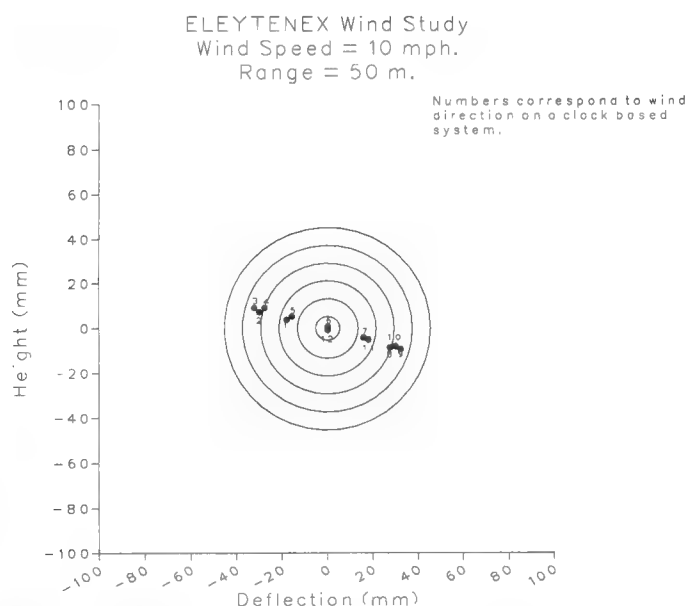

Figure 6. Effect of a 10 mph wind on the Eley Tenex bullet at 50 meters range
Figures 6 through 8 illustrate the 6-DOF results, with the standard 50 meter Olympic target drawn to scale, for constant wind speeds of 10 miles per hour (mph), 20 mph, and 30 mph, respectively. The solid black data points represent the impacts of bullets in the wind, if the rifle is properly zeroed at 50 meters range in a no-wind condition, and the rifleman makes no wind corrections. The number adjacent to each impact point is the clock direction from which the wind is blowing. (Note: To convert millimeters to inches, divide millimeters by 25.4).
Figures 6 through 8 show that the wind response of Eley Tenex and R-50 ammunition is essentially linear in wind speed up to 30 mph; e.g., a 20 mph wind deflects the bullet twice as much as a 10 mph wind, and a 30 mph wind deflects it three times as much as the 10 mph wind. The 1989 study shows that the Eley Tenex and R-50 bullets are slightly more wind sensitive than some previously published .22 caliber wind tables indicate, but the differences are not of any practical significance.
Figure 6 shows that even a 10 mph crosswind, coming from either 2, 3, or 4 o'clock, or from 8, 9, or 10 o'clock, will cause the rifleman to lose one point on the scoring ring unless a verti-
A very accurate approximation to the results shown in Figures 6 through 8 may be obtained by means of the classical crosswind deflection formula, often called the lag-rule, combined with the vertical deflection caused by aerodynamic jump. These two equations will now be discussed, and a few example calculations will be done, to demonstrate the practicality of the method.
Two examples will illustrate the use of equations (1) and (2) in calculating the effect of wind on Eley Tenex or R-50 ammunition. Both examples will be done for 50 meters range, so the calculations may be compared with the 6-DOF results shown in Figures 6 through 8. An ordinary hand-held calculator is all that is needed for these two problems.
We find that equation (1) predicts a horizontal deflection of 1.23" to the right, and equation (2) predicts a vertical deflection of -0.33", downward, for a 10 mph crosswind from 9:00. Figure 6, which we will take to be an exact result, shows 1.30" horizontal deflection, and -0.35" vertical deflection, for the same case. The errors resulting from using equations (1) and (2) are negligible.